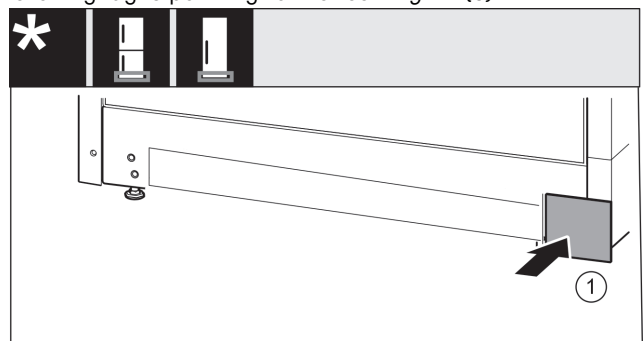

Fig. 15
- ▶ Put the cover back on the other side. *Fig. 15 (1)*